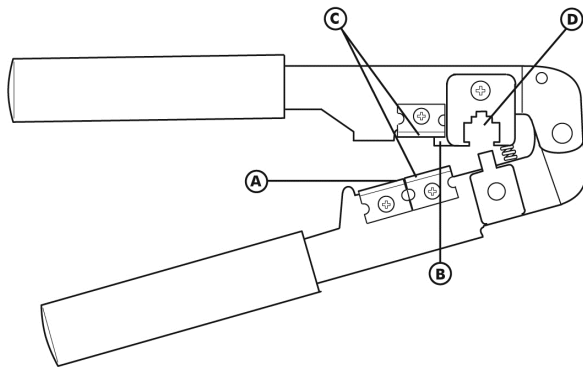

FIGURE 21: RJ-12 Modular Plug Crimping Tool
1. Using the cutter blade on the crimping tool (labeled **A** in Figure 21), cut the flat CA Cable so the cut is clean and 90 degrees to the sides of the cable.
2. Fully insert one end of the CA Cable between the stripping blades (labeled **C** in Figure 21) until the end of the cable hits the stop (labeled **B** in Figure 21).
6. Push a RJ-12 Modular Plug into the plug holder on the crimping tool (labeled **D** in Figure 21) until the release tab on the plug locks into position.